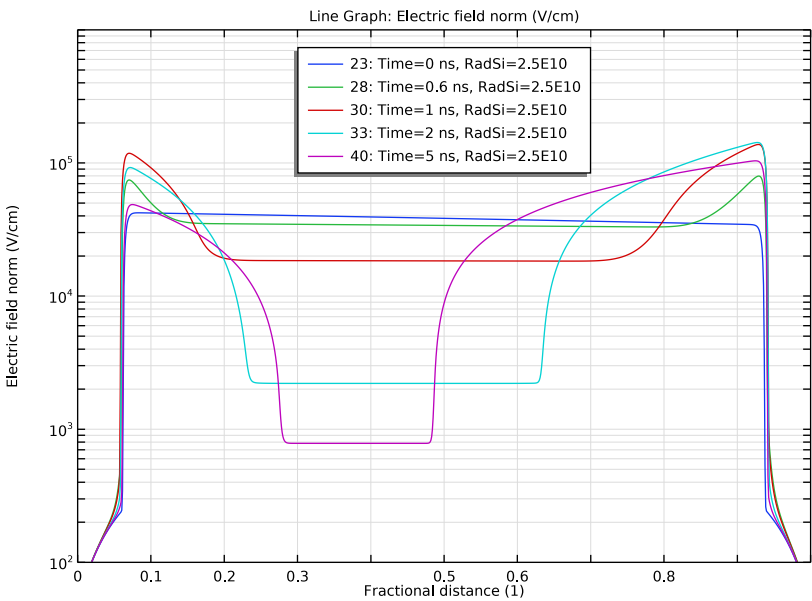

Fig. 8 Transient Photocurrent Response
After completing the steady-state study, we are now ready to investigate the effect of pulsed radiation with the waveform given by the inset of Fig. 8 in the reference paper. This waveform is provided by the pulse function $pw1(t/t_p)$ in the model with a normalized height of unity. The peak dose rate is specified by the parameter $RadSi$ directly in units of $Rad(Si)/s$. Tighten the tolerance to $1e-8$. Since the solution of the steady-state study is used as the initial condition, use the option of **Initial value based** for the scaling of the dependent variables, to get a proper scaling for the error estimate.
Plot the hole, electron, and electric field distributions at several times, and the photocurrent response at two ionization levels, to be compared with Fig. 7A ~ 7C and Fig. 8 in the reference paper, respectively.
- 2 In the **Settings** window for **ID Plot Group**, type Fig. 8 Transient Photocurrent Response in the **Label** text field.
- 1 Right-click **Fig. 8 Transient Photocurrent Response** and choose **Global**.
- 5 In the **Fig. 8 Transient Photocurrent Response** toolbar, click  **Plot**.